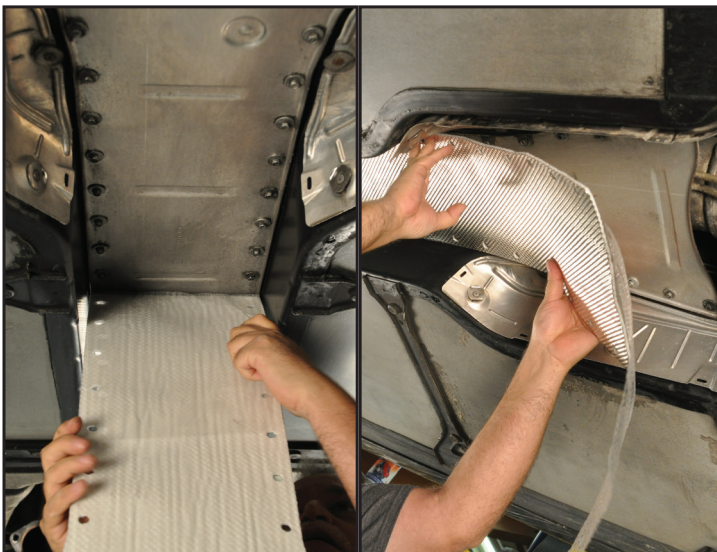

Fig 5
STEP 6. Start by putting this part of the shield in place and firmly pressing on the shield. Peel off more of the backing and work the shield into place as you go. Do not remove all the backing and try to install the shield. **Fig 5**